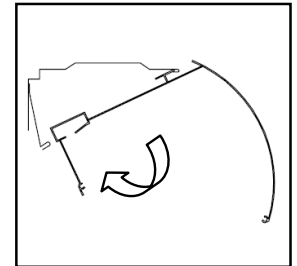

fig. 3
3. Hook the cassette under the front of the mounting brackets and CLICK the rear of the cassette into place (fig. 3).